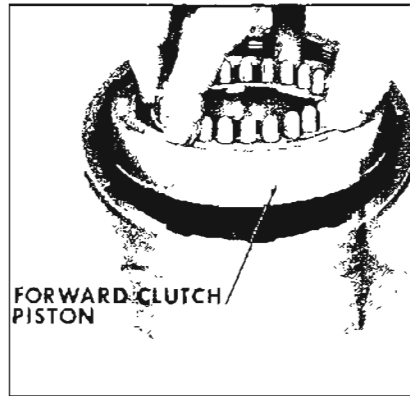

Figure 5-221
9. Lift up on forward clutch piston with a twisting motion and remove. See Figure 5-221.